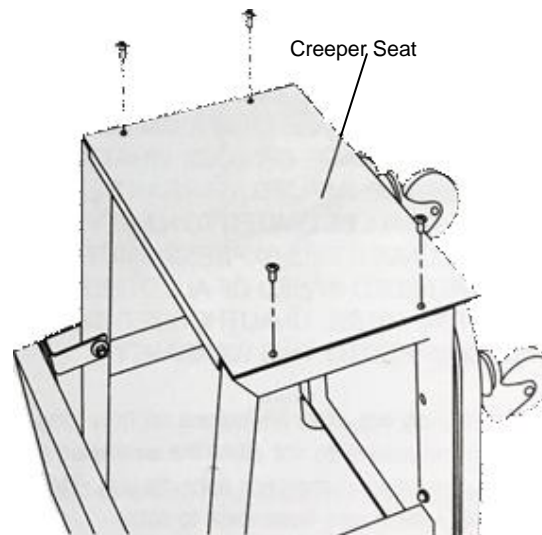

Figure 4- Attaching Step to Side Frames
4. Fasten creeper step to side frames using four M6 x 16 Phillips head screws (Fig. 4).